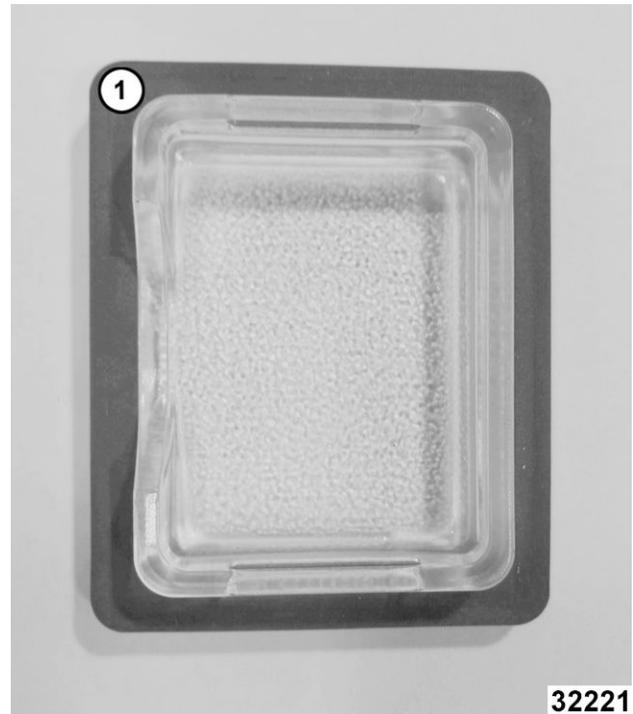

Fig. 46
**NOTE:** Verify gasket (1, Fig. 46) is flat on lamp cover and not damaged.